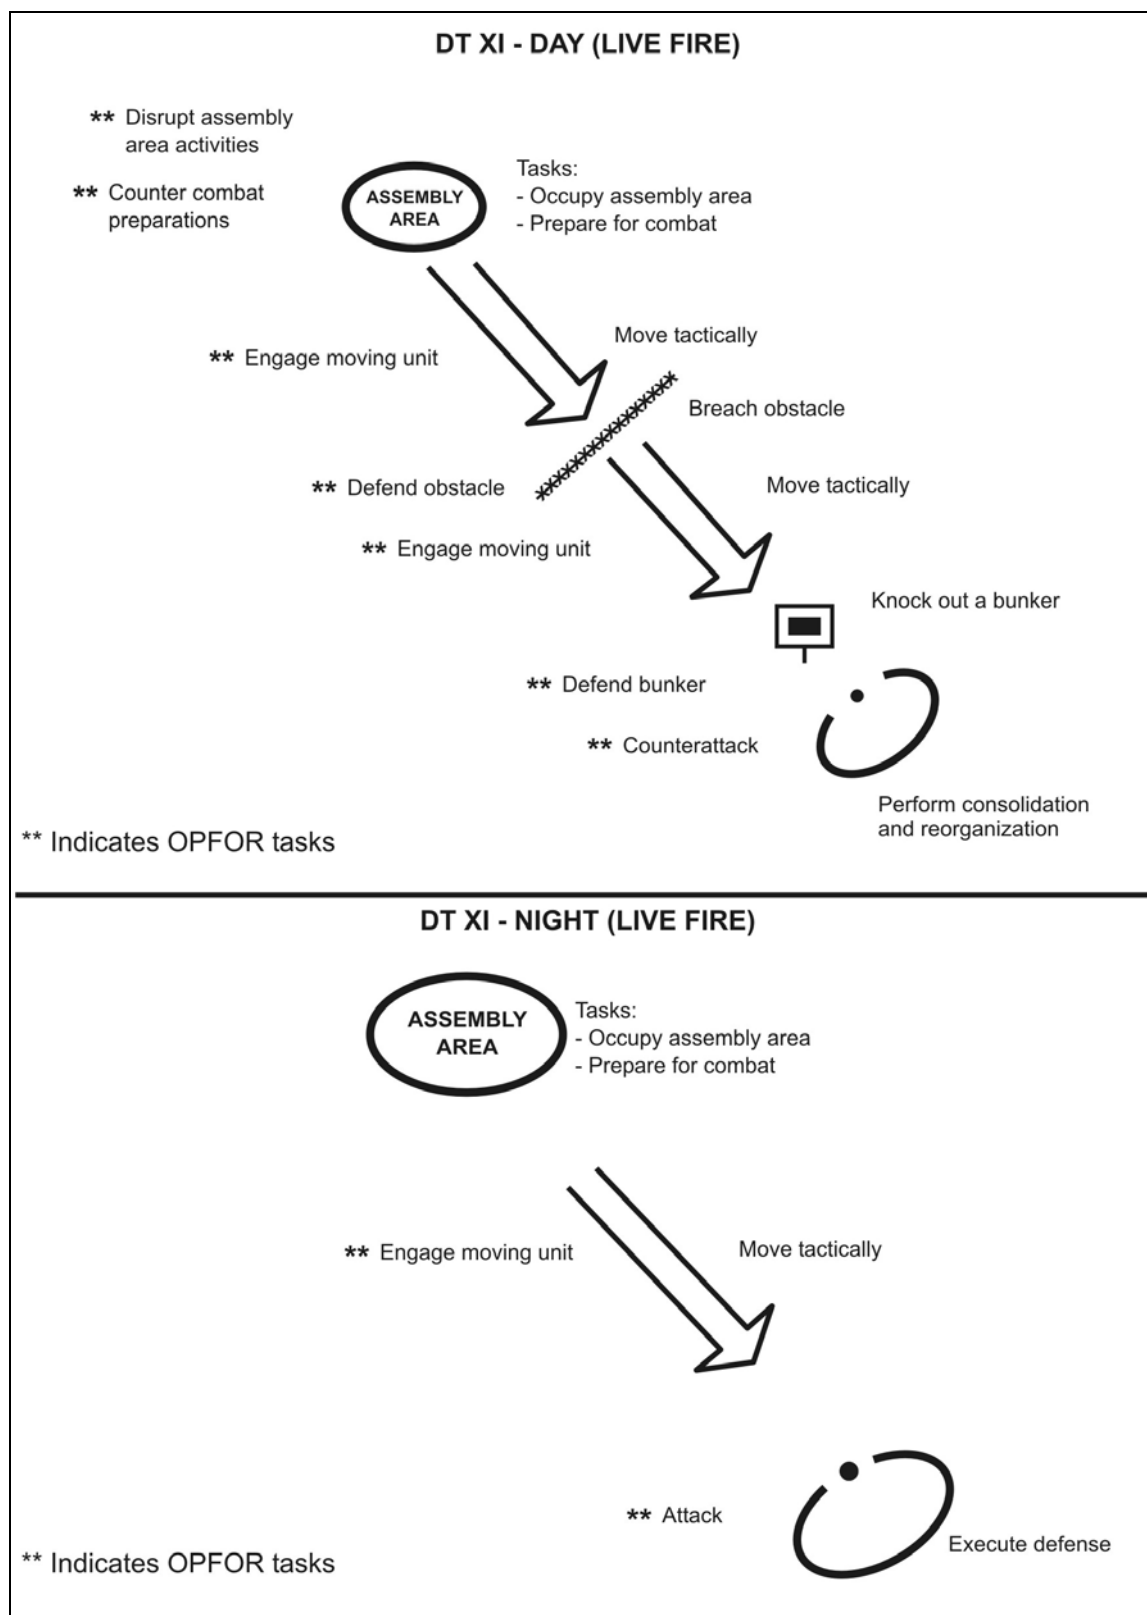

Figure F-20. Squad qualification (Table XI).
a. **Rifle Infantry Table XI, Squad Qualification.** DT XI evaluates the infantry squad's ability to conduct live fire, tactical tasks during day and night (Figure F-20, page F-20).